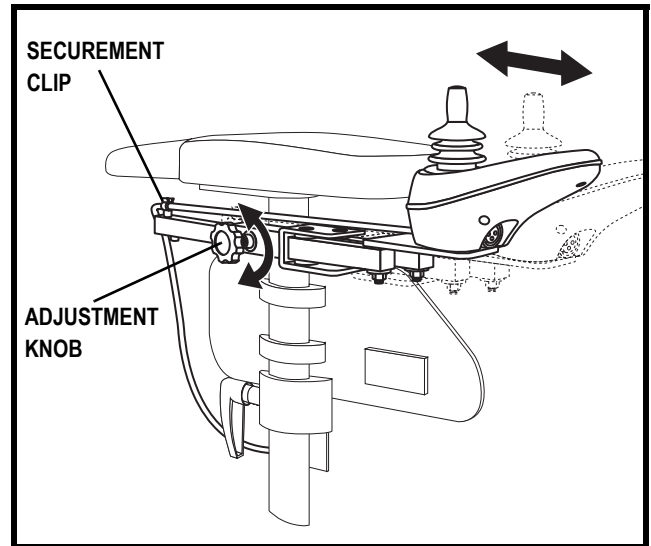

Figure 22. Controller Position
4. Loosen the adjustment knob on the armrest where the controller is currently located. See figure 22.
5. Loosen the adjustment knob on the armrest where the controller will be installed. See figure 22.
1. Loosen the adjustment knob on the armrest. See figure 22.